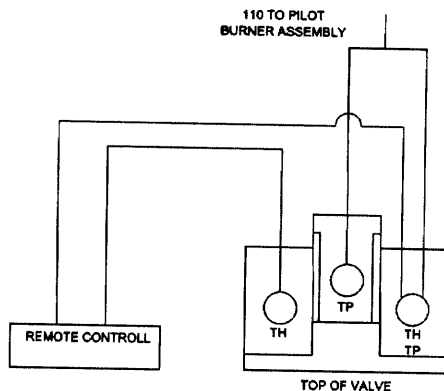
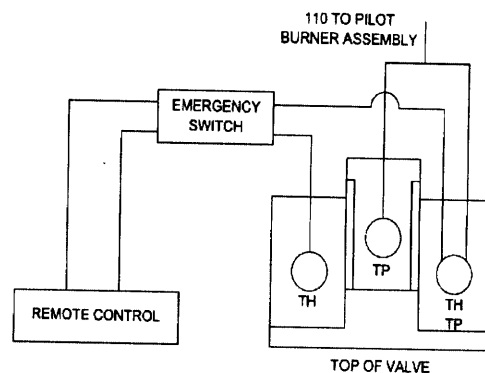

Figure 2
Figure 3
5. Connect the black wires labeled "Main Valve" to the Millivolt generator and Millivolt valve (see Fig.2) or the Emergency Switch (Fig.3). Switch the Emergency Switch to OFF position if it is installed. Use the Emergency Switch only during a power failure.